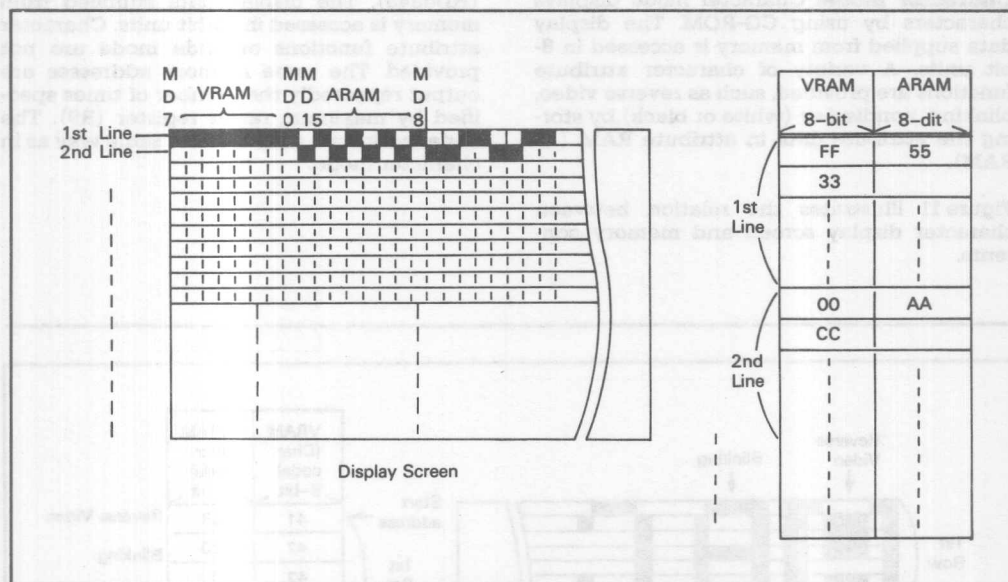

Figure 12 Relation between Graphic Screen and Memory Contents
**Graphic Mode 1:** Graphic mode 1 directly displays data stored in a graphic memory buffer. The display data supplied from memory is accessed in 16-bit units. Character attribute functions or wide mode are not provided. Figure 12 illustrates the relation between graphic display screen and memory contents.